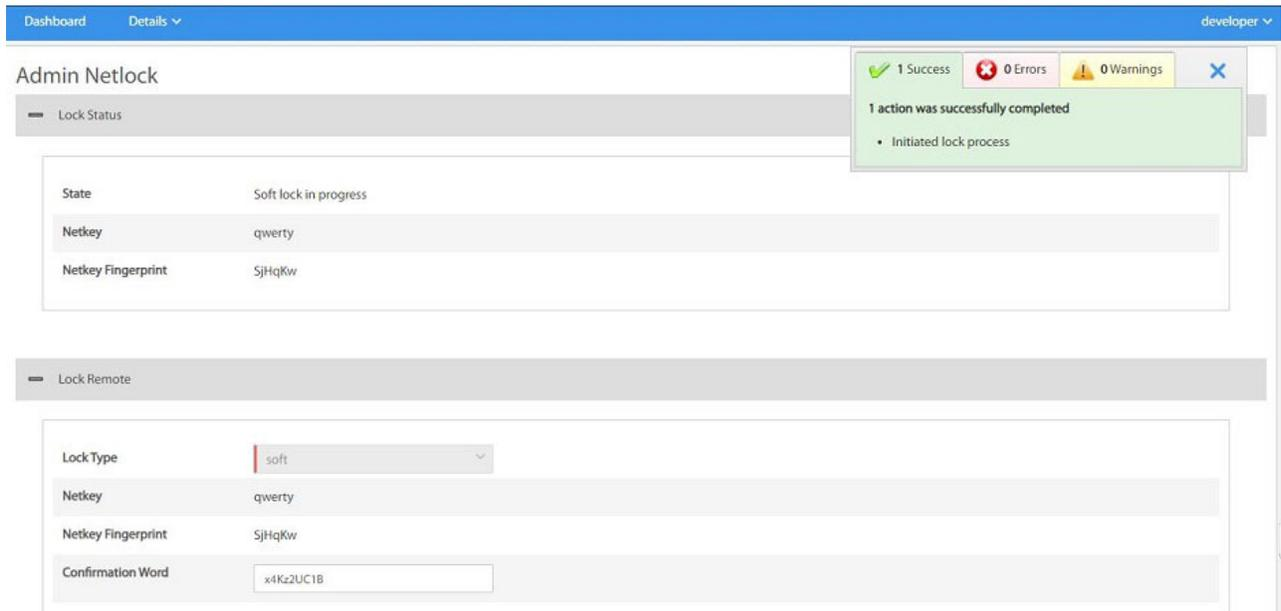

Figure B-3. Netkey, Fingerprint, and Confirmation Word
6. Click **Lock**. The **Lock Remote** section expands to show the following fields (see Figure B-3):